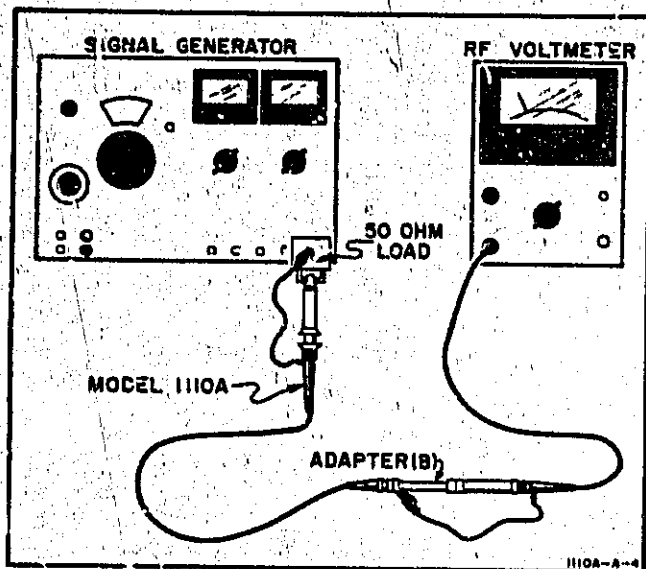

Figure 5. High Frequency Limit Test Setup
28. **Low Frequency Limit.** Set up test equipment for this test as indicated in Figure 5.
29. High Frequency Limit. Set up test equipment for this measurement as indicated in Figure 5.